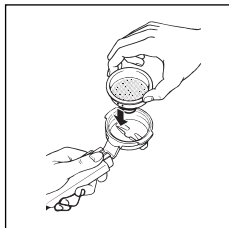
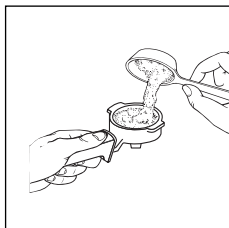

fig. 7
fig. 8
1. After carrying out the preheating of the machine as described in the preceding section, in order to make just one cup of espresso coffee, insert the 1-cup filter (the smaller of the two provided) into the filter holder (Fig. 7) and fill it with one level measuring spoon of ground coffee (fig. 8) – about 7 grams. If you wish to prepare two cups of espresso coffee, use the 2-cup filter (the larger of the two provided) and fill it with two less-than-level measuring spoons of ground coffee (about 6+6 grams).
2. Place the small filter (1 cup or pods) in the filter holder, making sure the projection is correctly inserted in the slot as shown in fig. 7.